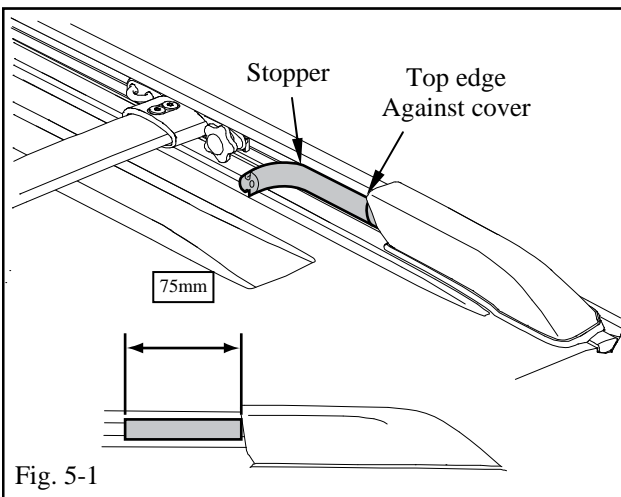

Fig. 5-1
-  (a) Install the stopper against the leg cover by pressing the stopper into the groove of the rail. Install on rear of rails both sides. (Fig. 5-1)